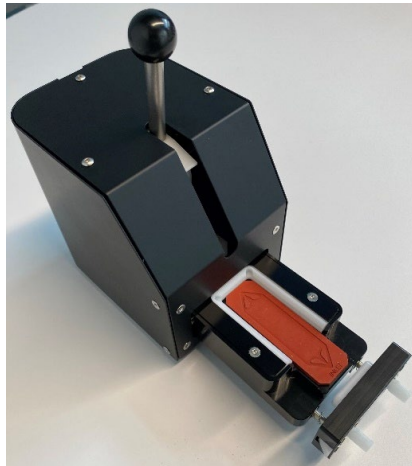

Figure 1. CellScape Slide Assembly Tool with tray open.
- a. Open the CellScape Slide Assembly Tool (Figure 1) by squeezing the white prongs at the front of the unit with your fingers and sliding out the tray.